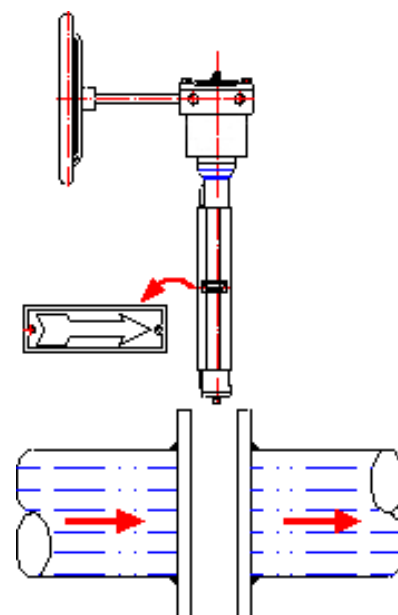

Fig.3
- 7.3. The shaft side of the disc is recommended installing at the low-pressure side of the valve, (as indicated on the drawings by a flow arrow) meaning the best closure performance is obtained on this side of the valve, and a determination as to the best installation should be made, to utilize this feature. This may not necessarily be the normal flow direction of the system. (Fig.3).